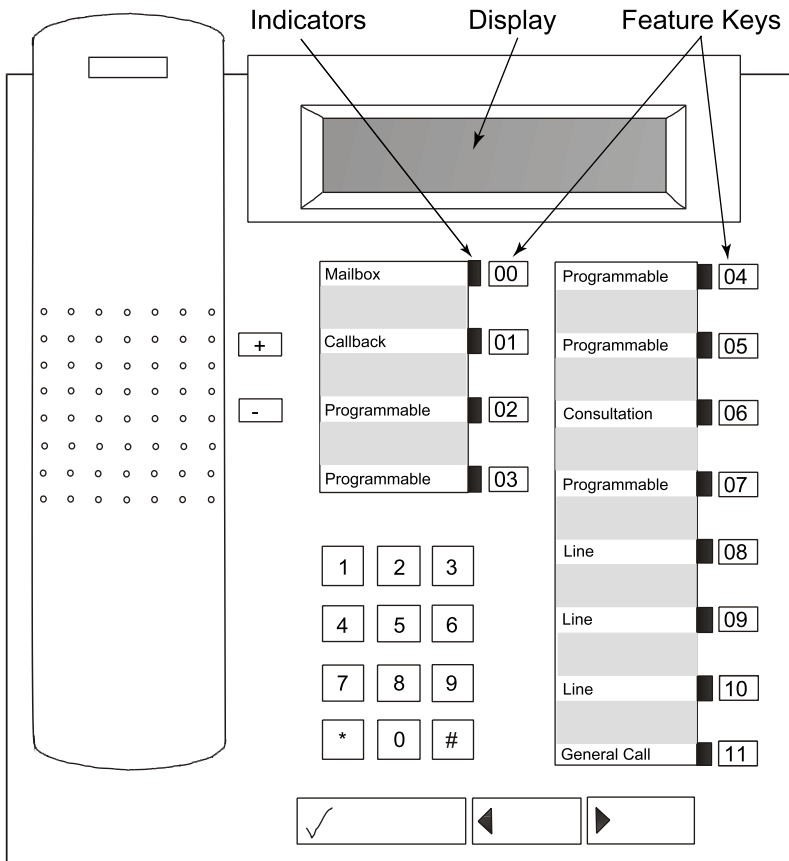
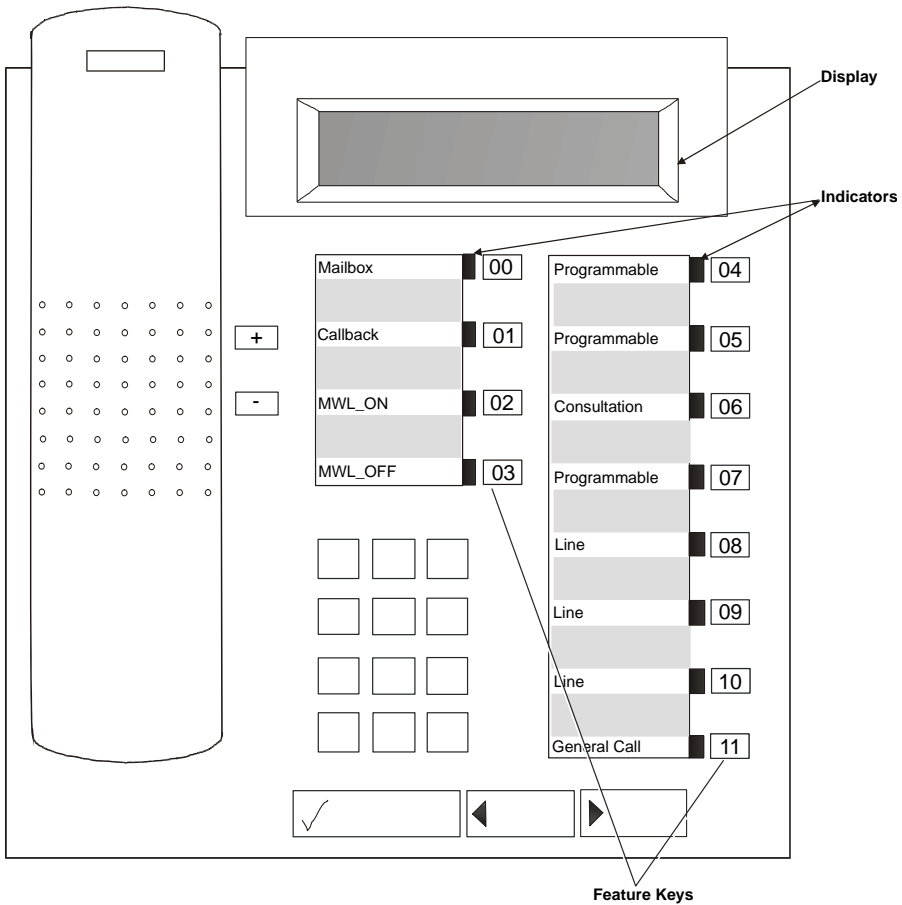

Figure 5. Siemens Optiset E Telephone with the Hicom 150
Figure 6. Siemens Optiset E Telephone with the Hicom 300
When the Hicom 150 is used with Optiset E phones (see Figure 5), special PBX programming is required. The keys should be programmed as shown in Figure 5. If these keys are not programmed in this way, loop current detection, CPID, the & (transfer) key, and message waiting will not work.
When the Hicom 300 is used with Optiset E phones (see Figure 6), the top two programmable keys (Key 00 and 01) on the left must be programmed as Mailbox and Callback, respectively. Key 02 must be configured to dial the **message waiting lamp on** (MWL_ON) string. Key 03 must be configured to dial the **message waiting lamp off** (MWL_OFF) string. This programming allows an application to use the specified dial string to turn the MWL on and off. In addition, Key 07 must be programmed as the Consultation (transfer) key. Keys 08-12 must be programmed as Line keys, with Key 12 programmed as the General Call Key, which provides the off-hook indicator. Refer to Figure 5 and Table 11 for specific Key locations and set-up requirements.
7. Press Key 02 (third from the top left, see Figure 6 below) to set the dial string for MWL_ON.
The PBX integration board performs functions available to a Optiset E telephone set (see Figure 5 and Figure 6). An Optiset E telephone set uses an LED displays to show key status (next to the keys) and user prompts and messages on the display to provide various options. The PBX integration board can:
As illustrated in *Figure 5* and *Figure 6* , there are 12 Programmable Feature Keys located below the display on the Optiset E telephone. These keys are configured either during PBX installation or by the user (using the telephone set or the PBX integration board). There is an LED Indicator associated with